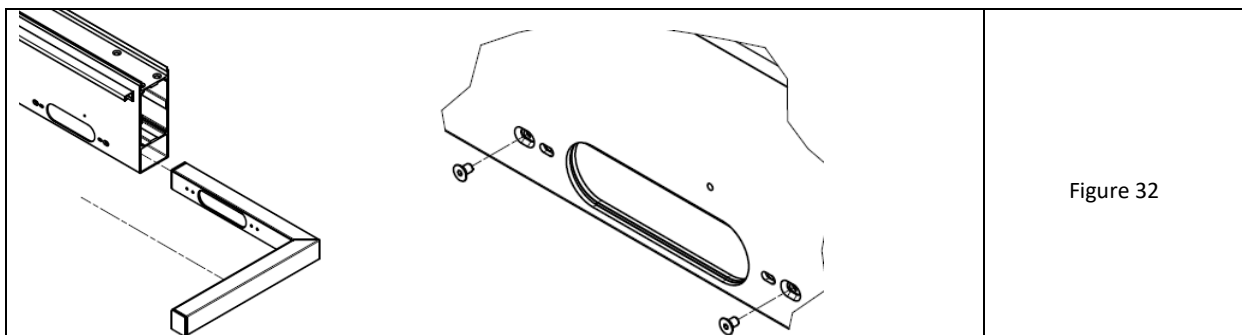

Figure 32
6. Install the angular overflow at one end of each cross beam on the side without the planned post (fig. 32).
8. When inserting the profile avoid abrasion of the sealing layer and apply EPDM to the beam wall only after aligning the contours of the holes. Tighten the overflow with 2 countersunk screws M5x8 (in external oval holes with deepening) (fig.32-right).
14. When inserting the profile avoid abrasion of the sealing layer and apply EPDM to the beam wall only after aligning the contours of the holes. Tighten the overflow with 2 countersunk screws M5x8 (in external oval holes with deepening) (see fig.32-right).